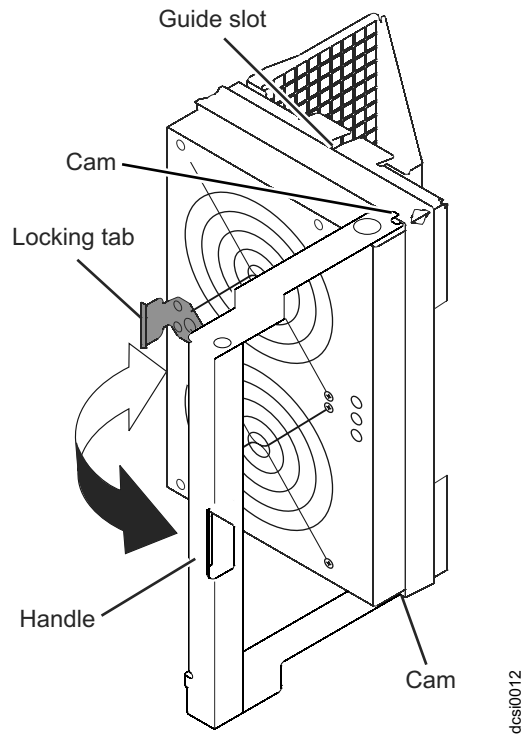

Figure 88. Removing a fan assembly
- a. At the rear of the storage expansion enclosure, remove the fan assembly (see Figure 88 on page 125) by pressing on the locking tab holding the fan assembly handle in place; then, pull the fan assembly handle toward you.